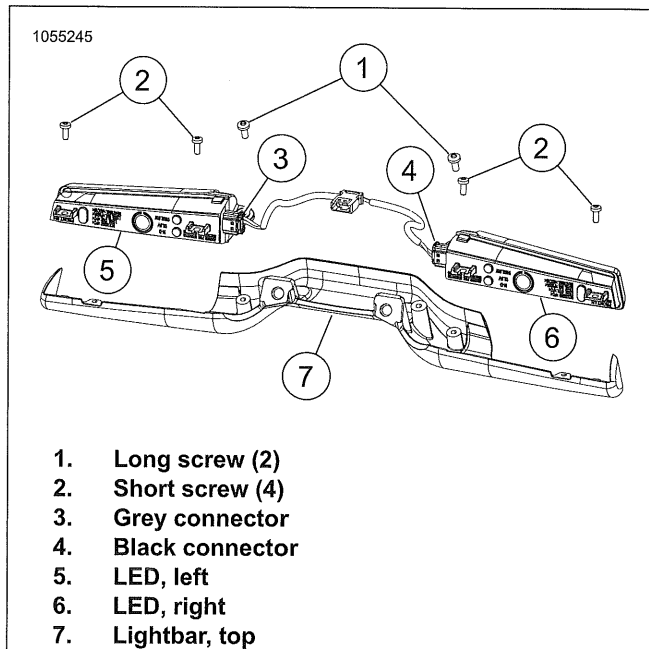

Figure 7-74. LED Turn Signal
3. See Figure 7-74. Remove LED signal.
1. See Figure 7-74. Install LED signal.
- c. Install screw (1).